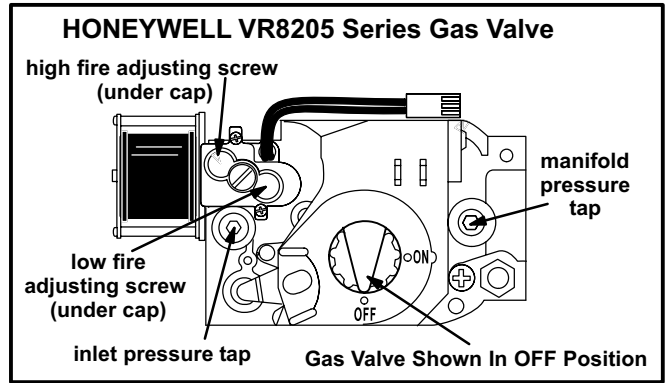

Figure 3
Operating the Gas Valve (Figure 3)
- 6 - Turn the gas valve knob to **OFF**. Do not force. See figure 3.